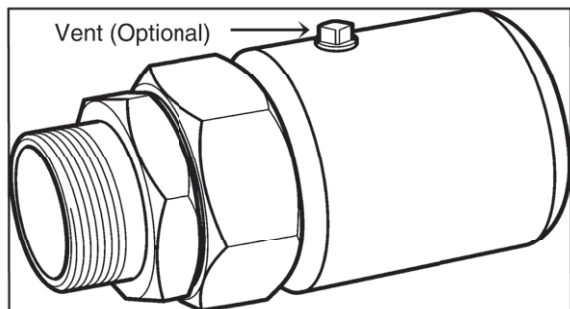

Figure: 4-46
- TracPipe® PS-II fittings are constructed from TracPipe® CounterStrike® patented AutoFlare® fittings with a plastic containment coupling and 1/4 inch NPT vent port. Fittings assemble without special tools. Figure 4-46